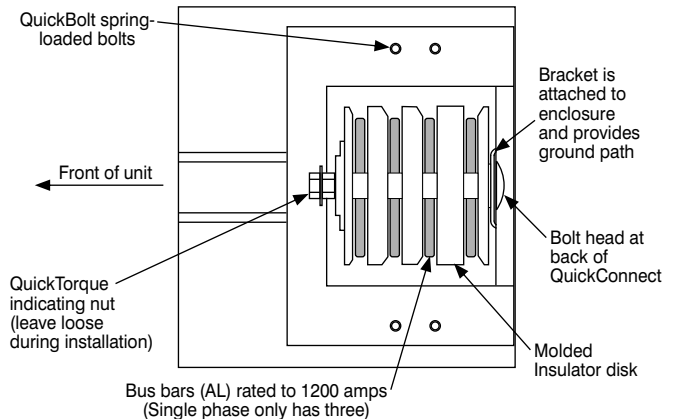

Fig. 6: QuickConnect Detail
Insert QuickConnect into the cross bus opening of the Main Module Unit (See Fig. 6) with the QuickTorque nut facing the front of the unit. The large bolt head on the QuickConnect should be installed behind the grounding bracket inside the enclosure (see Fig 6). The QuickConnect is supplied in all meter stacks and extension boxes. Additional QuickConnects are only needed if installing a WB, WS, or WTB on the load side of the utility service.
Step 8. Grounding. The ground path for modular metering units is provided through the bracket mounted in the QuickConnect opening where stacks are connected. See close-up of the QuickConnect in Fig. 6 for location of the ground bracket.